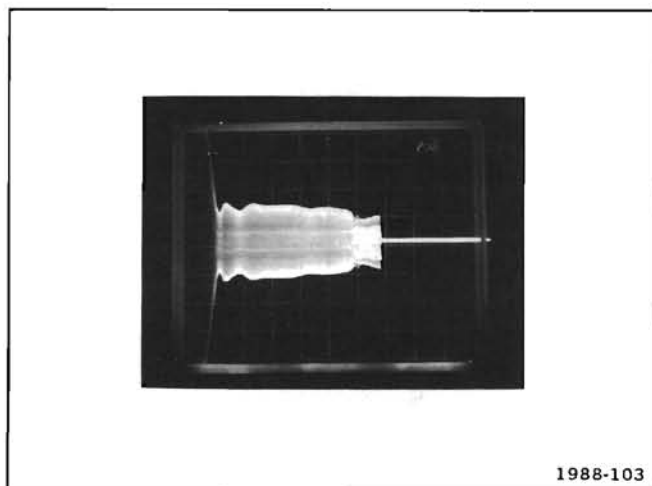

Figure 4-7. Current waveforms of T1230 showing burst operation at line voltage of about 60 volts.
4. If the 7104 continues in the pulse mode or continues to open the line fuse, check the current waveform through T1230. To do this, first repeat part 1 of this step. Then connect a current probe from the test oscilloscope to the gray lead that passes through toroid transformer T1230. Set the test oscilloscope for a vertical deflection factor of about 1 volt/division and a horizontal sweep rate of 2 milliseconds/division. Connect the 7104 power-cord plug to the variable auto transformer which is set for 0 volt. Turn the 7104 on and slowly increase the variable autotransformer's output to about 60 volts. Check for a burst waveform on the test oscilloscope (similar to that shown in Fig. 4-7).